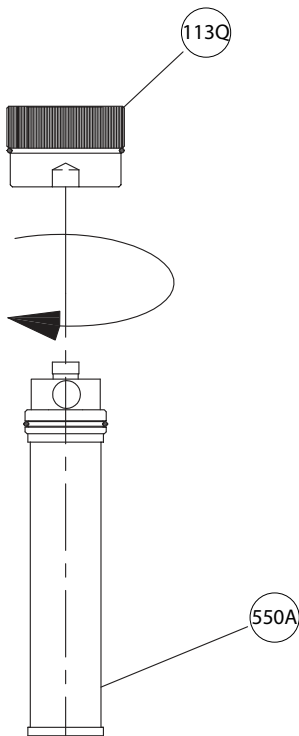

Figure 27: Filter removal
2. Unscrew the filter (550A), part number K08174A from the plug (113Q), part number K06818A. Keep the plug (113Q) and discard the old filter (550A). Please discard the oil filter per your local waste disposal requirements. See Figure 27: Filter removal on page 48.